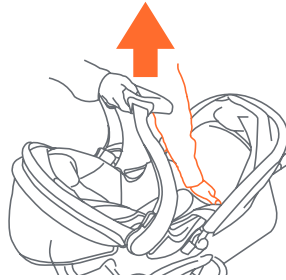

Fig. 18
- 18) • To remove the Infant Car Seat, unstrap the short clips from each belt slot and squeeze the release handle located at the foot-end of the seat and carefully lift upward on the seat (Fig. 18).